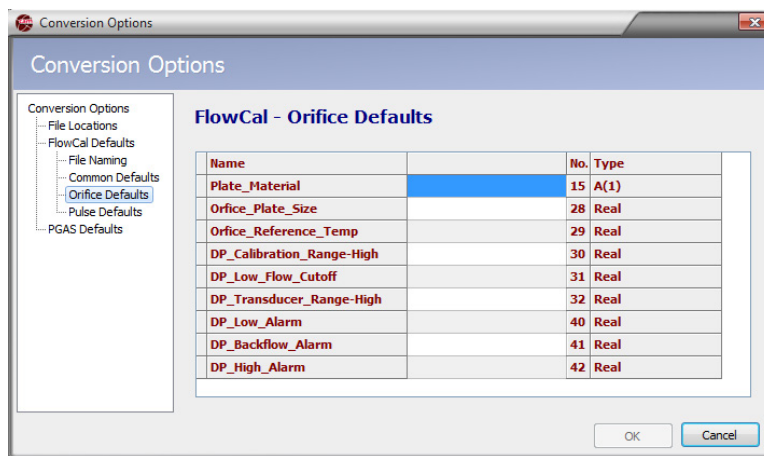

Figure 5.4—Flow-Cal Orifice Defaults dialog
- Orifice Defaults (Figure 5.4, page 59)